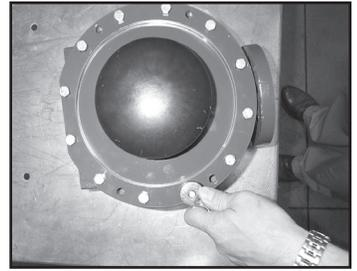
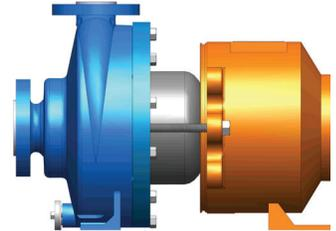

figure 37
figure 38
6. Place the rounded edge of the clamp ring (Item 7) over the barrier assembly and position on the rear face of the casing. Make sure to align the flat on the bottom of the clamp ring with the flat on the bottom of the casing. Attach the clamp ring with (12) 3/8" socket head cap screws (item 13). Tighten evenly around circumference. Torque the screws to 35 ft-lbs (47 N-m) unlubricated. See figure 37.
7. Using a 3/4" socket, turn the (3) jackscrews (item 14) clockwise until the heads touch the motor adapter (item 9).
8. Carefully slide the wet end towards the motor adapter until it touches the jackscrews (there will be some magnetic attraction). See figure 38.
10. Bolt the wet end to the motor adapter by re-installing the (4) 1/2" hex head cap screws (item 15) and torque evenly to 75 ft-lbs (102 N-m).